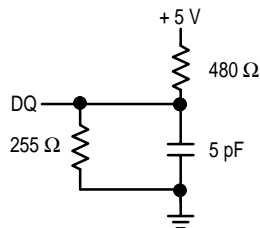

Figure 1B
6. Transition is measured ± 500 mV from steady-state voltage with output load of Figure 1B. This parameter is sampled and not 100% tested. At any given voltage and temperature, t_{KHQZ} is less than t_{KHQX}, t_{POEHQZ} is less than t_{POELQX} for a given device, and t_{SOEHQZ} is less than t_{SOELQX} for a given device.
4. Transition is measured ± 500 mV from steady-state voltage with output load of Figure 1B. This parameter is sampled and not 100% tested. At any given voltage and temperature, t_{KHQZ} is less than t_{KHQX} for a given device.
6. Transition is measured ± 500 mV from steady-state voltage with output load of Figure 1B. This parameter is sampled and not 100% tested. At any given voltage and temperature, t_{KHQZ} is less than t_{KHQX} , t_{POEHQZ} is less than t_{POELQX} for a given device, and t_{SOEHQZ} is less than t_{SOELQX} for a given device.
3. Transition is measured ± 500 mV from steady-state voltage with output load of Figure 1B. This parameter is sampled and not 100% tested. At any given voltage and temperature, t_{POEHQZ} is less than t_{POELQX}, t_{SOEHQZ} is less than t_{SOELQX}, and t_{KHQZ} is less than t_{KHQX} for a given device.